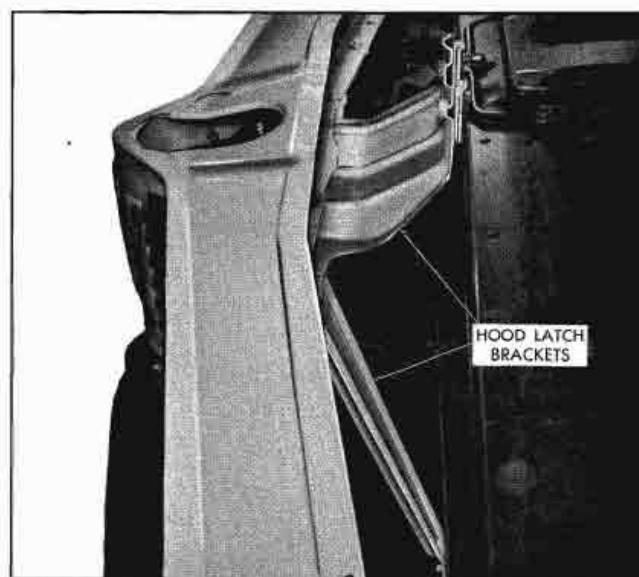

Fig. 6-54 Hood Latch Bracket
5. Remove hood latch bracket (Fig. 6-54).